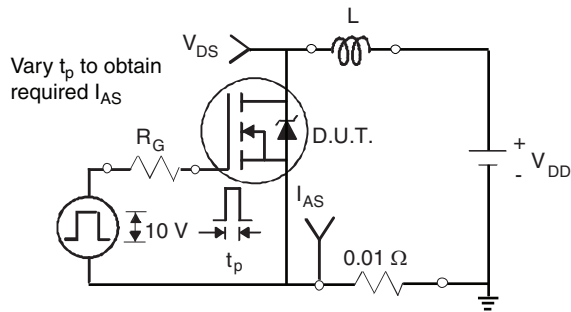

Fig. 13 - Unclamped Inductive Test Circuit
b. $V_{DD} = 25$ V, starting $T_J = 25$ °C, $L = 541$ μ H, $R_g = 25$ Ω , $I_{AS} = 14$ A (see fig. 13).